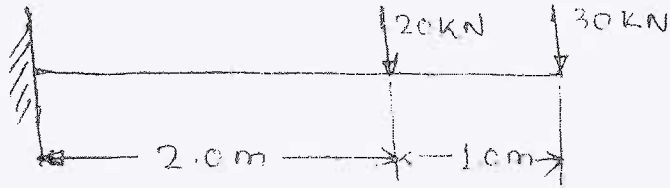

Fig. Q7 (a)
- b. A simply supported beam of 6 m span is subjected to a set of loads as shown in Fig. Q7 (b). Find maximum deflection and the maximum slope for the beam.